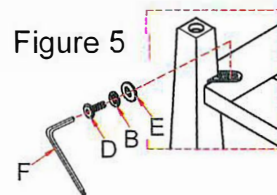

Figure 5
5. Using Flat washer (E), Lock Washer (B), Bolt (D) with Allen Key (F) to connect bottom shelf of step 4 on the table. (See Figure 5). Tighten all bolts with Allen Key (F).